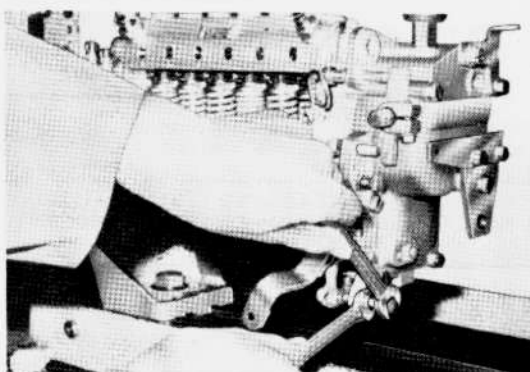

Fig. 3-182 Full Load Stopper Adjustment
- a. Set the revolution at 1,600 rpm, incline the adjusting lever at specified lever angle (-9°), and adjust by turning the full load stopper so that the rack position will be at 10.1 mm (0.398"). Then, secure with the lock nut. (Refer to Fig. 3-182)